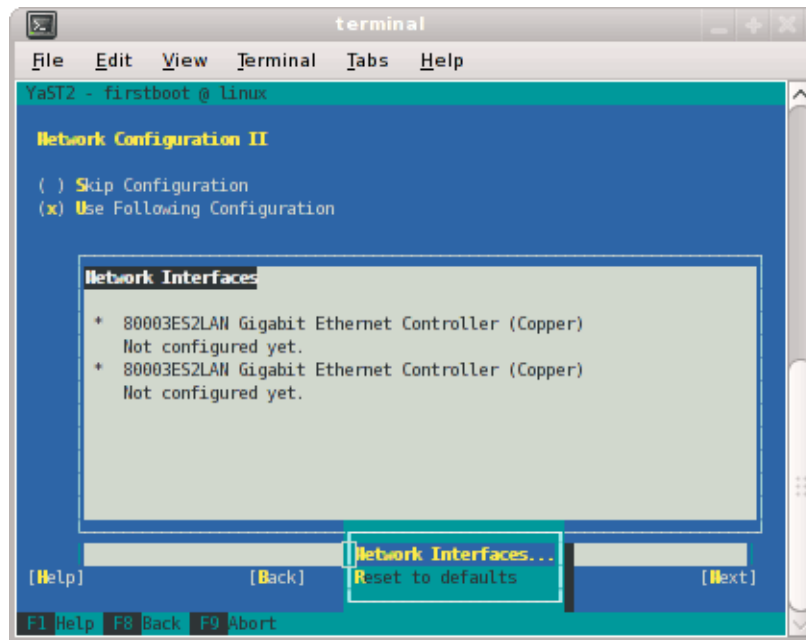

Figure 1-11 Network Configuration II Screen
6. The **Network Configuration II** screen appears, as shown in Figure 1-11 on page 18. Select **Change** and a small window pops up that lets you choose **Network Interfaces...** or **Reset to Defaults**. Choose **Network Interfaces**.